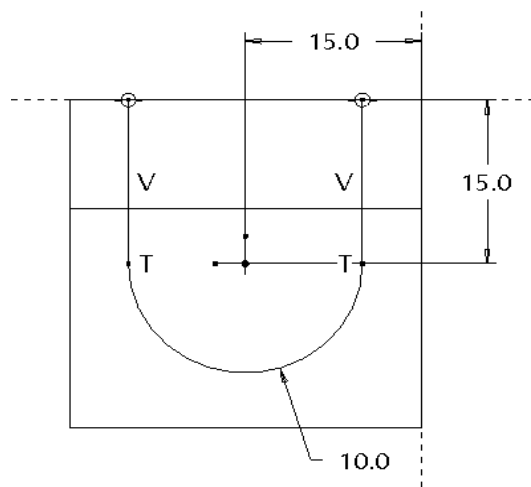

Figure 33 Final sketch for cut
Now left click at vertex 3 and draw a vertical line up to snap to the reference at vertex 4, making sure that you have a tangent constraint (T) at vertex 3. Our sketch is complete. Use the middle mouse button to return to Select mode. Your dimension values may be different from those shown in Figure 33. Your dimensioning scheme may even be slightly different. It will be easier to see this if you go to hidden line display instead of shading.
All the dimensions should be weak. Drag them to a better location if necessary (off the part). Don't be afraid to resize your display so that you can see everything clearly. Compare the dimensioning scheme with the one in Figure 33. We want to have a horizontal dimension of 15 from the reference at the back of the part to the center of the arc of the U. If you do not have that dimension, we'll have to add one manually. This will illustrate a case where we will override the Intent Manager.
Modify the values of the dimensions to match those in Figure 33.